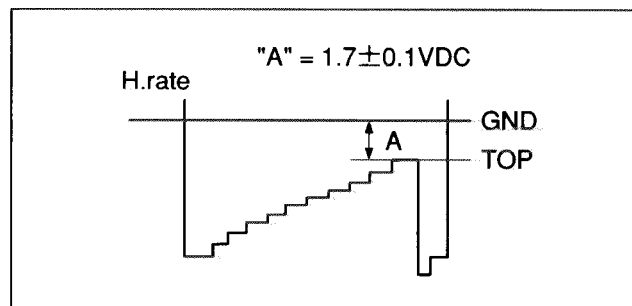

Fig. 3-4-4 WHITE LEVEL
- 2) Adjust VR7206 so that DC level of "A" (between the waveform GND and TOP, see Fig. 3-4-4) of a waveform becomes 1.7 V DC.